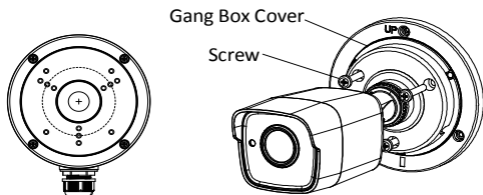

Figure 2-3 Fix the Camera with the Gang Box
- Route the cables through the cable hole of gang box and fix the camera with the gang box cover with the supplied screws, as shown in Figure 2-3.